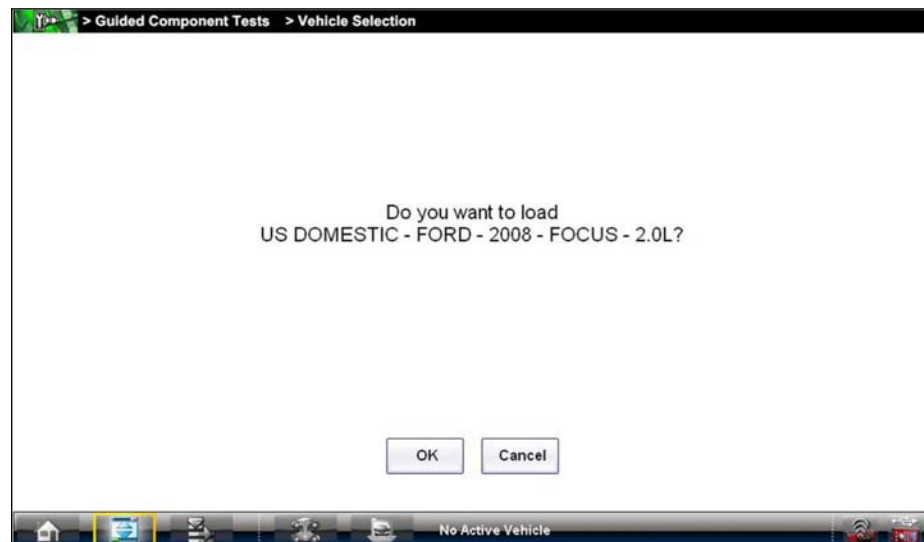

Figure 7-3 Sample confirmation dialog box
6. Select **2.0L** from the engine list and a confirmation dialog box displays (Figure 7-3).